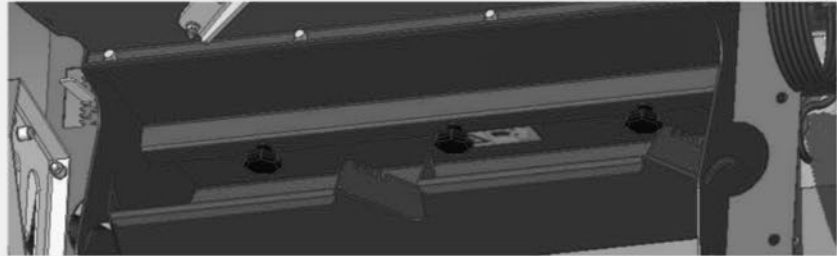

Figure 42
1. Remove the seeding shaft cover with the 3 star knob screws, which is located underneath the fan over the partition plates (Figure 42).